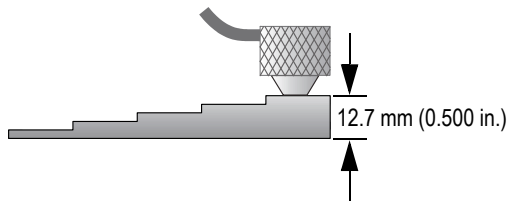

Figure 5-4 Sound velocity calibration on a five-step test block — Thick part
- b) Couple the transducer to the thick part of the test block using moderate to firm pressure (see Figure 5-4 on page 65).